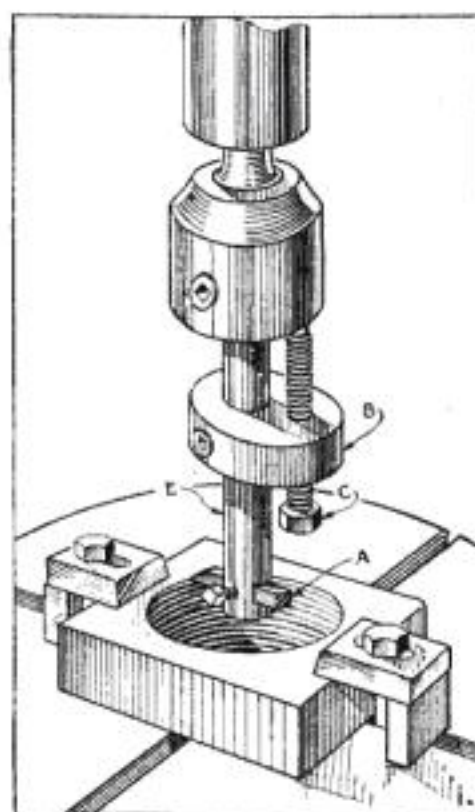

Fig. 4. A plain boring tool fitted with a screw for fine adjustment.
**I**N BORING holes with a noneccentric boring tool, considerable dexterity is required in moving the tool (shown at A, Fig. 4) the right amount in order to remove the last few thousandths of an inch. If a collar B with a hole out of center is placed as illustrated, the necessarily delicate adjustment for removing the last few thousandths is made by turning the screw C, which causes the bor-